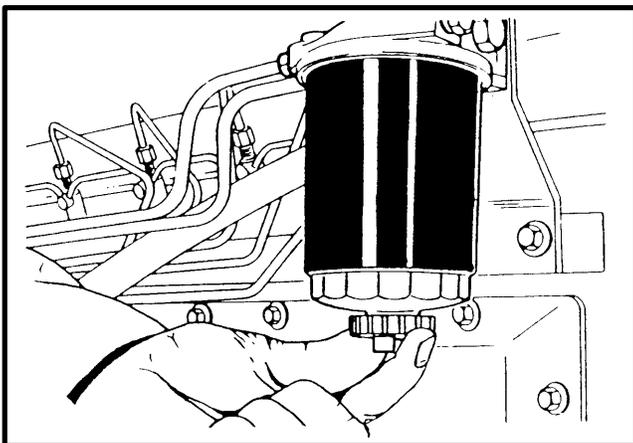

FIGURE 9. PRIMARY FUEL FILTER
1. Drain the water from the primary fuel filter. See FIGURE 9. Open the valve on the bottom of the filter canister. Drain some fuel (and any water) into a cup until clean fuel flows from the filter.